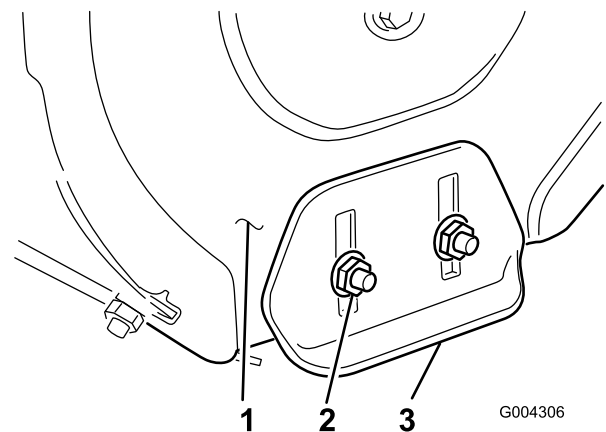

Figure 27
3. Loosen the 4 flange nuts that secure both skids to the auger side plates (Figure 27) until the skids slide up and down easily.
8. Tighten the 4 flange nuts that secure both skids to the auger side plates (Figure 27).